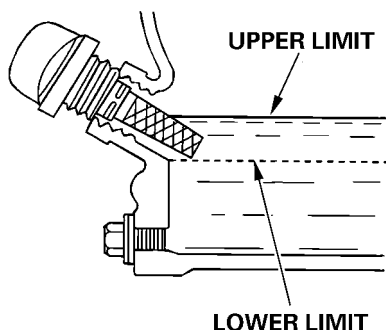

Figure 6. Oil Level
4. If the oil level is low (Figure 6), fill to the edge of the oil fillerhole with the recommended oil type (Table 3). Maximum oil capacity is .079 gallons (0.3 liters).